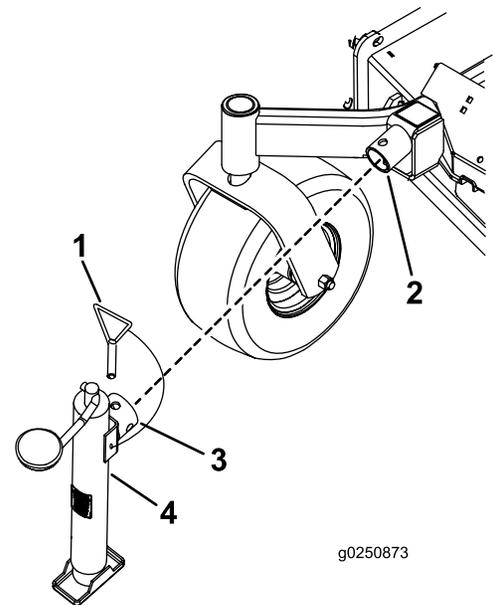

Figure 2
4. Insert the jack tube onto the jack mount, align the mounting holes, and secure the jack with the jack pin (Figure 2).
10. Remove and store the jack (Figure 2).